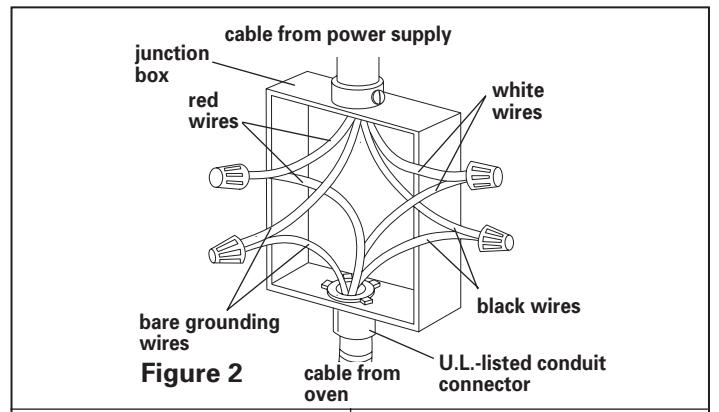

Figure 2
8. Connect white oven cable wire to neutral (white) wire in junction box. See Figure 2.
9. Connect the bare grounding oven cable wire to a grounded wire in the junction box. See Figure 2.
9. Connect the bare grounding oven cable wire to the green grounding wire in junction box. **Do Not connect bare grounding wire to neutral (white) wire in junction box.** See Figure 2.